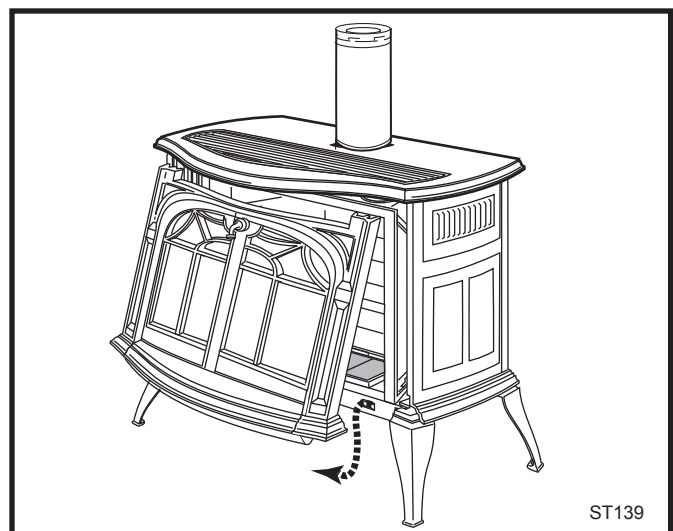

Fig. 46 Remove stove front.
2. Lift the Stove Front up and then swing the bottom out to disengage it from the heater shell. (Fig. 46)
1. Remove the Front, Glass Frame and Glass Panel. (Figs. 46 & 47) Remove the old gasket. Use a razor blade, with rounded corners, to separate the glass and gasket from the frame, and to clean the glass of any remaining cement or bits of gasket.